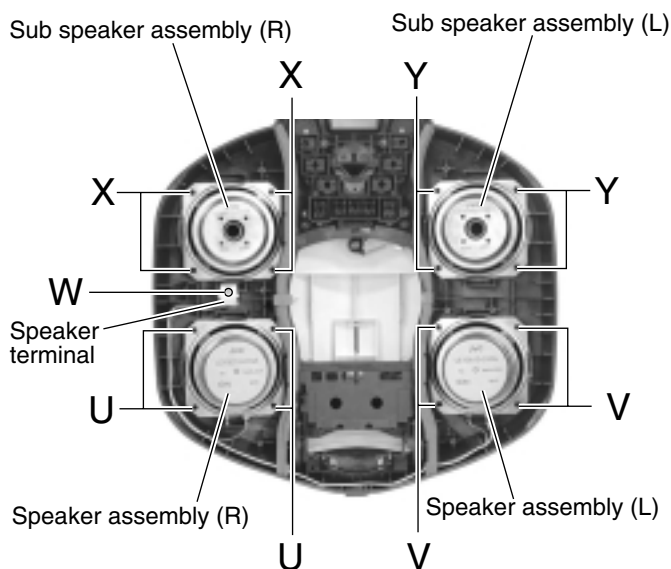

Fig.28
■ Removing the speaker assembly (R) and (L) (See Fig.28)
1. Remove the four screws **U** attaching the speaker assembly (R).
2. Remove the four screws **V** attaching the speaker assembly (L).
■ Removing the sub speaker assembly (R) and (L) (See Fig.28)
1. Remove the four screws **X** attaching the sub speaker assembly (R).
2. Remove the four screws **Y** attaching the sub speaker assembly (L). If necessary, disconnect the wire from each speaker terminal.